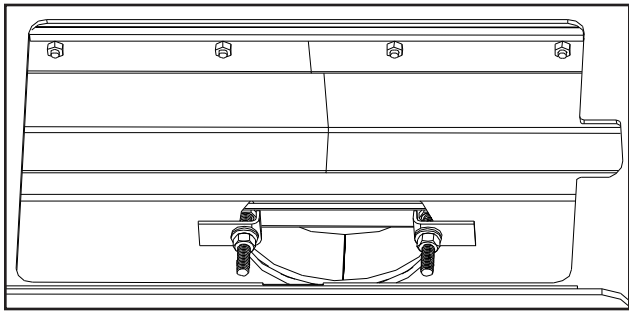
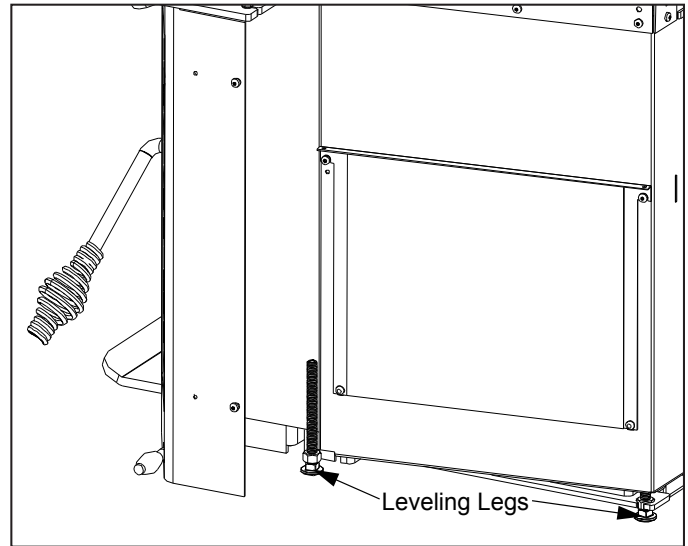

Figure 41: Removable flue collar in place.
Figure 42: Leveling legs.
- f) Place the Collar Puller, over the two bolts of the Flue Collar and pull it into place (see Figure 41). Ensure that the bolts are to the left and right of the hole. If they are not, the front secondary air tube will need to be removed in order to install or remove the C-Cast Ceramic Baffles.
- h) Re-install C-Cast Ceramic Baffles and the rear two (2) secondary air tube (see C-CAST CERAMIC BAFFLE INSTALLATION).
- 3.** There are four (4) leveling legs (shown in Figure 42), two (2) on each side, one at the back and one at the front of the unit. Adjust the legs using a  $\frac{3}{8}$ " wrench to ensure the unit is stable.